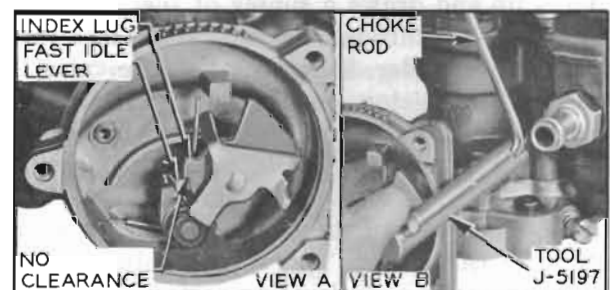

Figure 3-67—Fast Idle Cam Adjustment
6. Remove throttle stop screw. Open throttle enough to clear fast idle cam and fully close choke valve by pushing up on thermostat spring lever. Then close throttle until fast idle lever rests on high step of fast idle cam. Side of fast idle lever should just clear upper index lug on fast idle cam and rest in corner formed by index lug and high step of cam. If clearance is not correct, bend choke rod as required to obtain correct clearance using Tool J-5197. See figure 3-67.